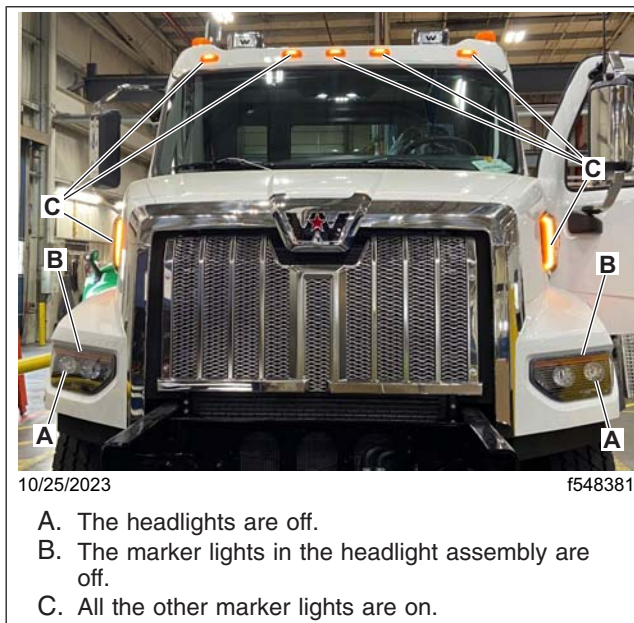

Fig. 128, Verifying that the Headlights and the Marker Lights in the Headlight Assembly Turn Off
- Headlights should be off, marker lights in the headlight assembly should be off, and all other marker lights should be on. See Fig. 128.